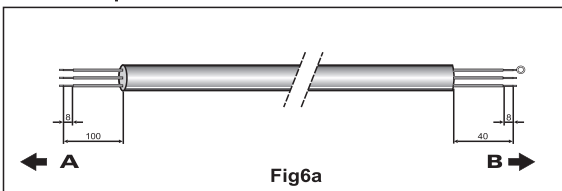

Fig6a
3. Prepare the cable ends for the power input and for the cables between outdoor and indoor units as shown in figure 6a and 6b respectively.